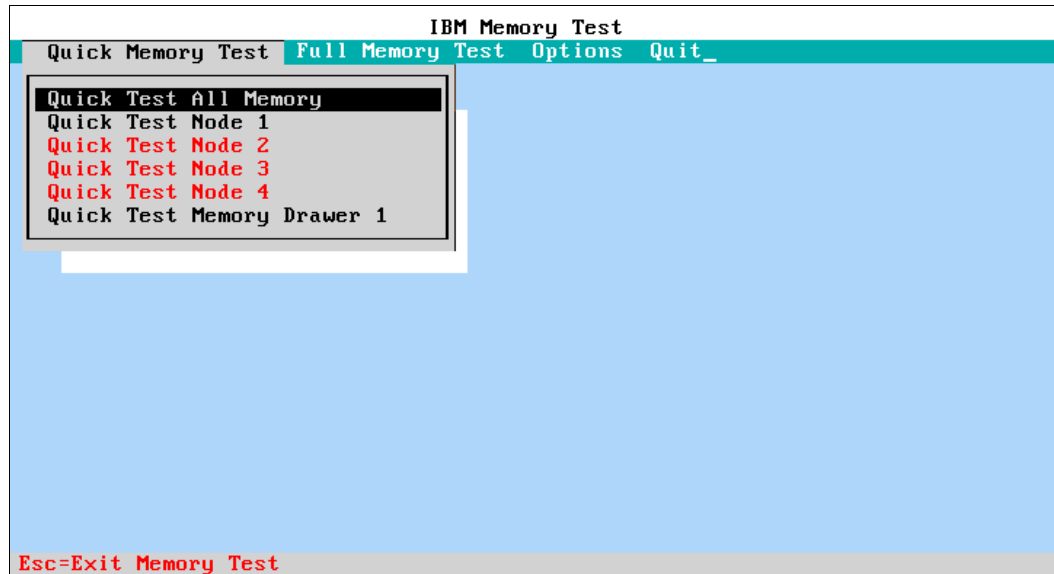

Figure 7-6 The start-up panel for the built-in diagnostics
2. When the built-in diagnostics start, the diagnostics start the Quick Memory Test for all of the memory in the server, as shown in Figure 7-6 on page 309. You can stop the Quick Memory Test at any time and run a Full Memory Test, which runs the same test patterns multiple times and takes five times longer than the Quick Memory Test. The only time that you want to run the full memory test is if you have an intermittent memory problem that you are trying to isolate.